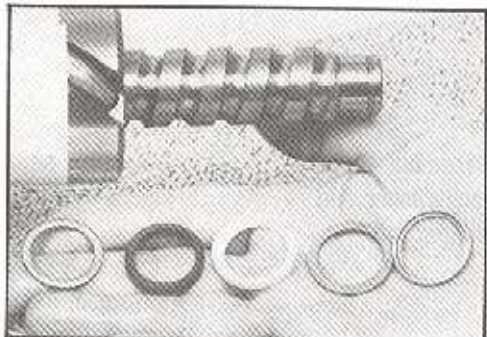

Figure 136
28. Assemble steel washer (26) on the lower end of worm shaft (25B). Assemble **new** seal (27) with the sharp edged face against the steel washer, the **new** seal cup (28) with the cupped side over the chamfered face of the seal, bronze backup washer (29) and the retaining washer (30) with its counter bore facing out. SEE FIGURE 136.